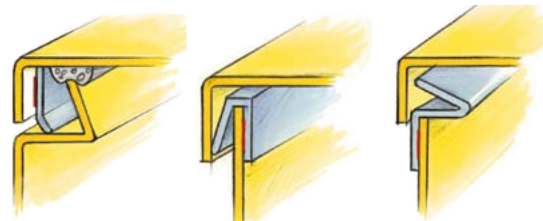

Figure 42: Solutions for medium size constructions
- 42 Small construction:** (about 200 x 200mm) multi-shield gasket, consisting of metal wire from top to bottom through a soft silicone rubber with a thickness of 2-3mm are suitable. (Fig. 42)